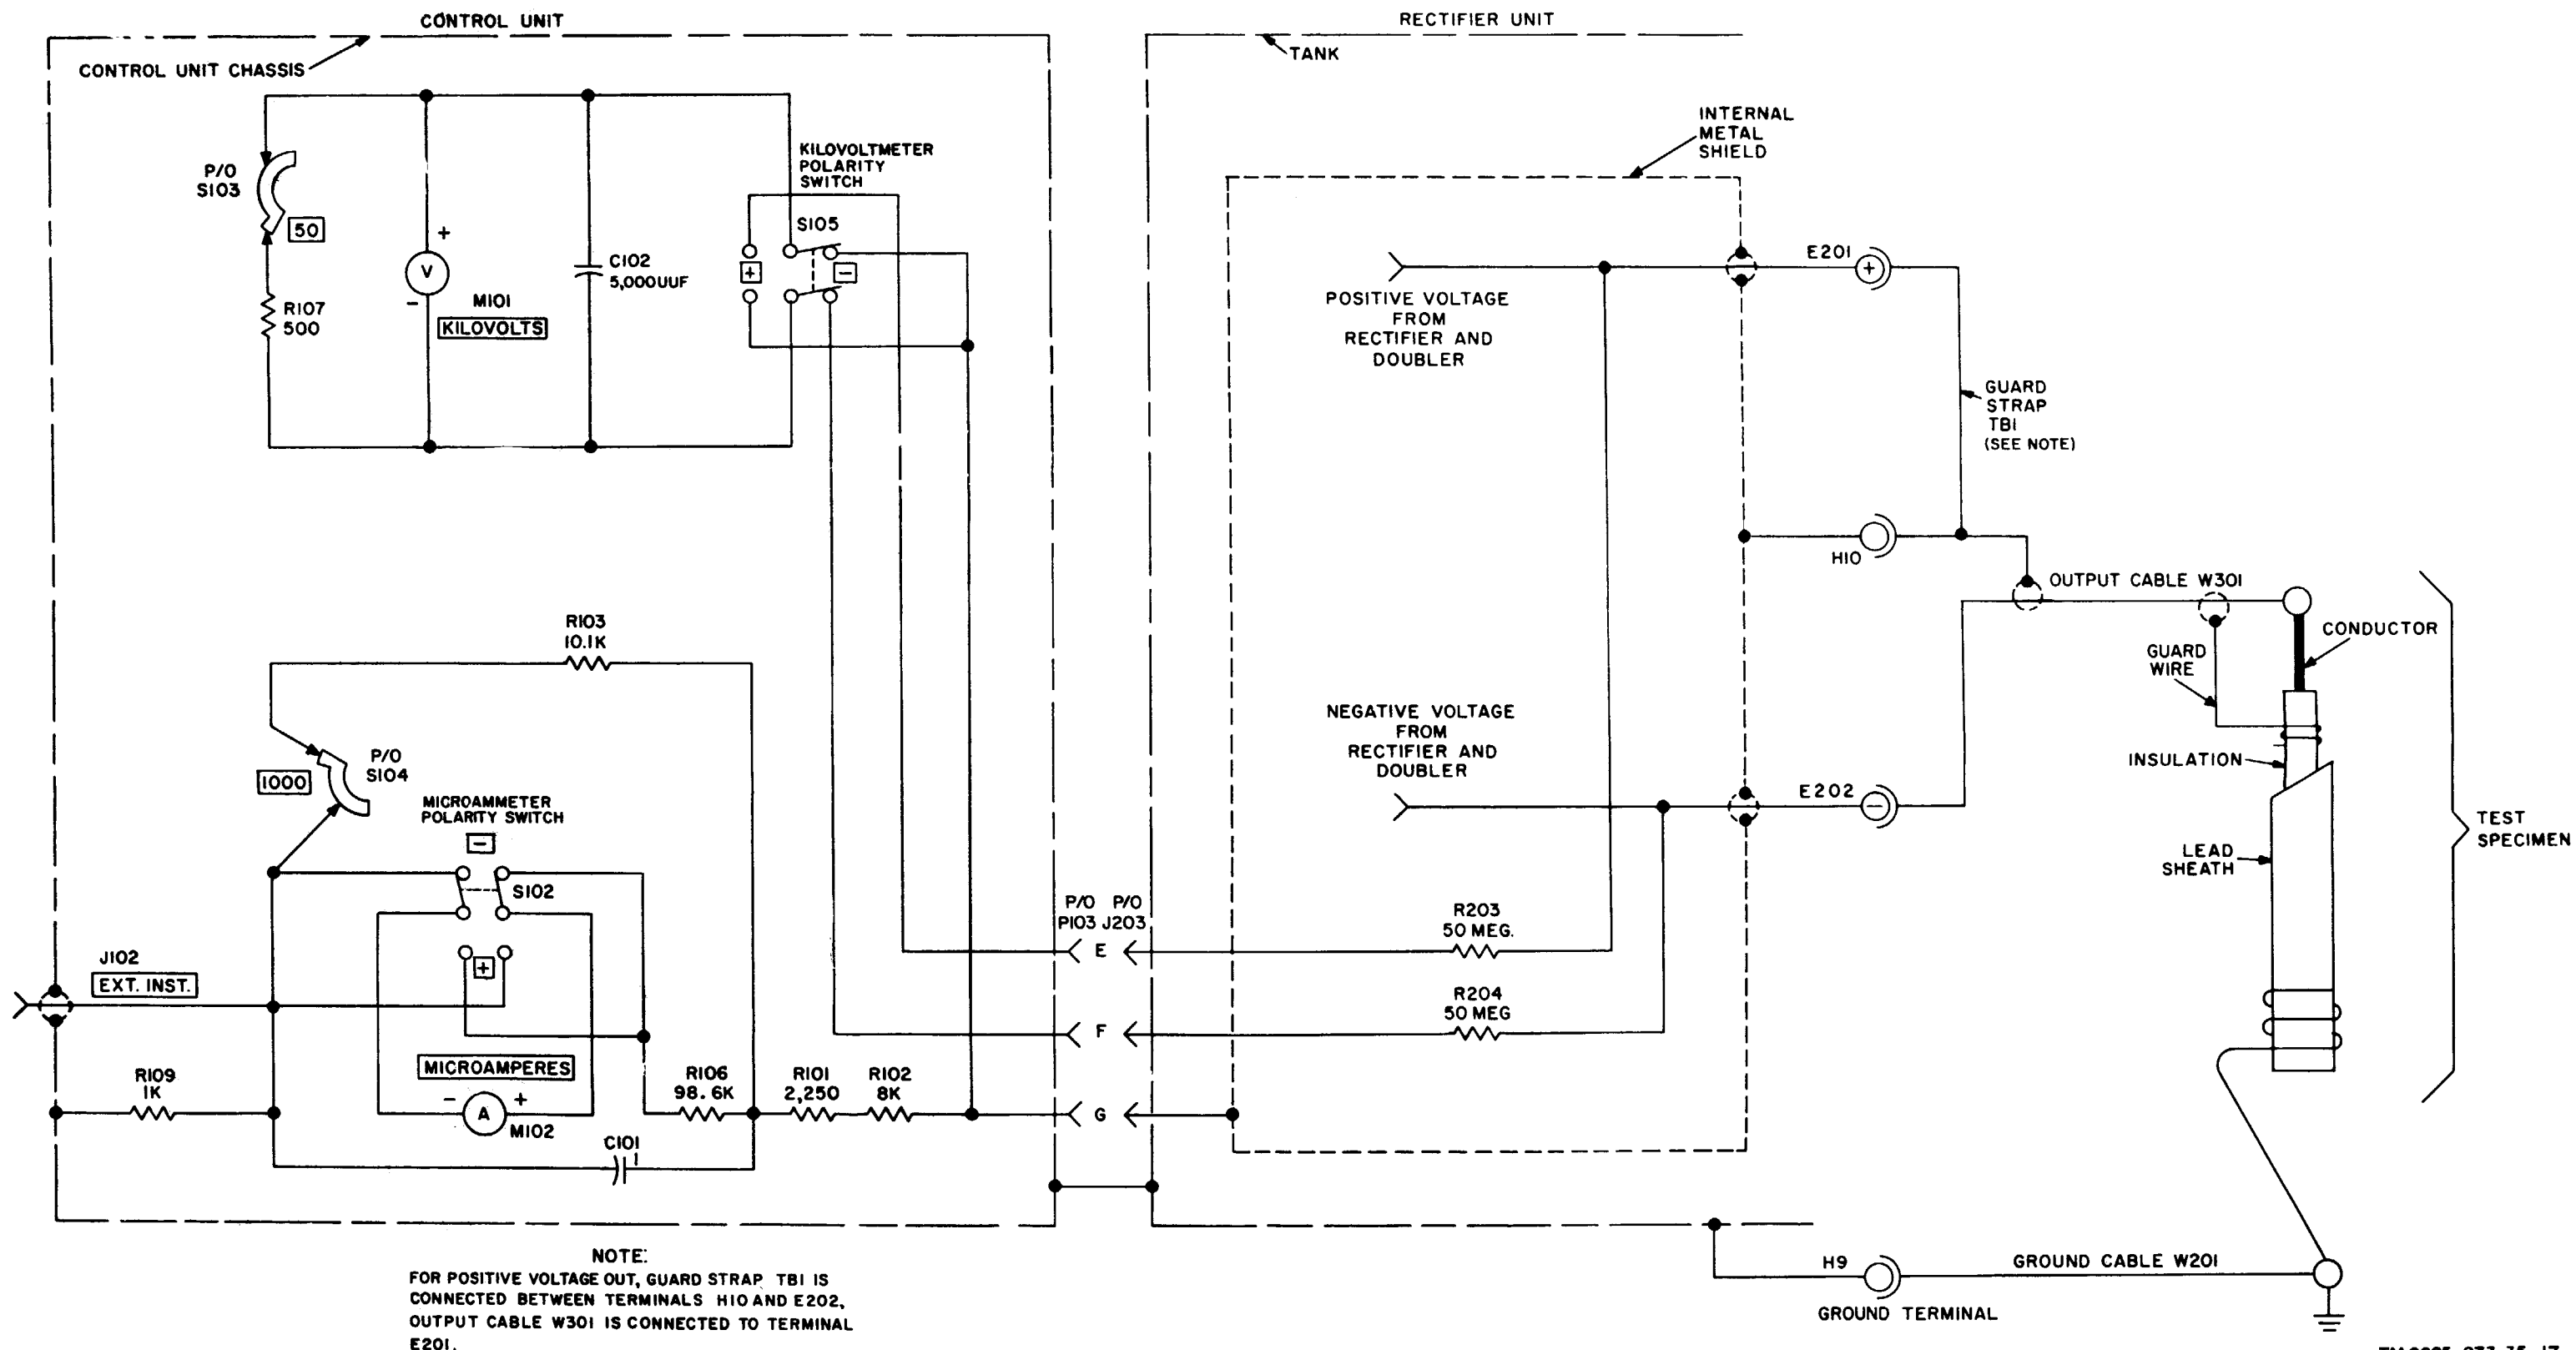

Figure 2. Insulation breakdown test set AN/GSM-6—partial schematic diagram, showing metering circuits and connections to test specimen.
- (2) Leakage currents between the conductor and the lead sheath (or outer casing) of the test specimen (fig. 2) are fed to the current metering circuit (par. 6). Leakage currents on the surface of the insulation of the test specimen are shunted through the guard connector (fig. 17), the terminal strap, and guard terminal H10 to the internal metal shield.
a. *Negative Voltage Output.* When the tester is supplying a negative voltage output (par. 4a (2)), kilovoltmeter polarity switch S105 (fig. 2) is placed in the negative (-) position, placing the kilovoltmeter circuit in the output circuit as follows:
- (1) The negative terminal of kilovoltmeter M101 is connected, through multiplier resistor R204, to negative (-) output, terminal E202 of the rectifier unit.
- (2) The positive terminal of kilovoltmeter M101 is connected, through the internal metal shield, to guard terminal H10 of the rectifier unit.
- (4) Capacitor C102 protects kilovoltmeter M101 against current surges.
- (5) Glow lamp E102, which has a firing potential of approximately 90 volts dc, protects kilovoltmeter M101 from excessive voltages as follows:
b. Positive Voltage Output. When the tester is supplying a positive voltage output (par. 4a(3)), kilovoltmeter polarity switch S105 (fig. 2) is placed in the positive (+) position, placing the kilovoltmeter circuit across the output circuit as follows:
- (1) The positive terminal of kilovoltmeter M101 is connected, through multiplier resistor R203, to positive (+) output terminal E201 of the rectifier unit.
- (2) The negative terminal of kilovoltmeter M101 is connected, through the internal metal shield, to guard terminal H10 of the rectifier unit.
- (3) VOLTMETER RANGE switch S103 functions in the same manner as described in a(3) above.
- (5) Glow lamp E102 protects kilovoltmeter M101 from excessive voltage in the same manner as described in a(5) above, except that the functions of resistors R203 and R204 are reversed.
a. Negative Output. When the tester is supplying a negative voltage output (par. 4a(2)), microammeter polarity switch S102 (fig. 2) is placed in the negative (-) position, placing the microammeter circuit in series with the output circuit as follows:
- (1) The negative terminal of microammeter M102 is connected, through current limiting resistor R109, to the control unit chassis which is connected to earth ground.
- (2) The positive terminal of microammeter M102 is connected to positive (+) output terminal E201 through current limiting resistors R106, R101, and R102, through the internal metal shield, through guard terminal H10, and through guard strap TB1.
b. Positive Output. When the tester is supplying a positive voltage output (par. 4a(3)), microammeter polarity switch S102 (fig. 2) is placed in the positive (+) position, placing the microammeter circuit in series with the output circuit as follows:
- (1) The positive terminal of microammeter M102 is connected, through current limiting resistor R109, to the control unit chassis which is connected to earth ground.
- (2) The negative terminal of microammeter M102 is connected to negative (-) output terminal E202 through current limiting resistors R101, R102, and R106, through the internal metal shield, through guard terminal H10, and through guard strap TB1.
- (3) AMMETER MULTIPLIER switch S104 functions in the same manner as described in a(3) above.
- (4) The charging current-flows from negative (-) output - terminal E202, through the meter circuit ((1), (2), and (3) above), and through the test specimen insulation, to positive (+) output terminal E201.
- (5) To measure discharging current (during shutdown), microammeter polarity switch S102 is placed in the negative (-) position. The energy contained in the insulation (dielectric) of the test specimen becomes the source of power, and the current flows in the direction opposite from that described in (4) above.